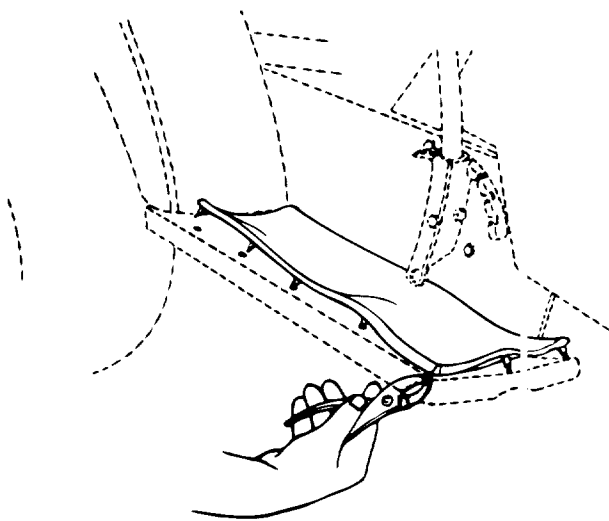

FIGURE 11.
1. If not already assembled, attach foot pads as follows. Position one foot pad on top of the running board on the tractor, lining up the studs on the bottom of pad with the holes in the running board. Pull the studs through the holes in the running board using a pair of pliers. Repeat on other side of tractor. See figure 11.